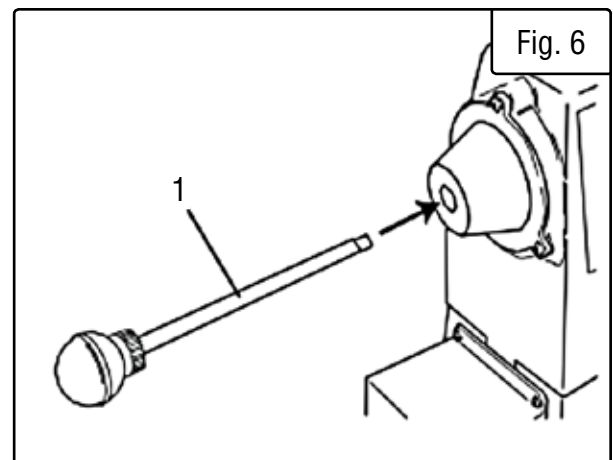

Fig. 6
2. Insert the knockout rod (Fig. 6 - 1) into the far end of the spindle or the tailstock quill until it comes into contact with the shaft of the spur or live center.